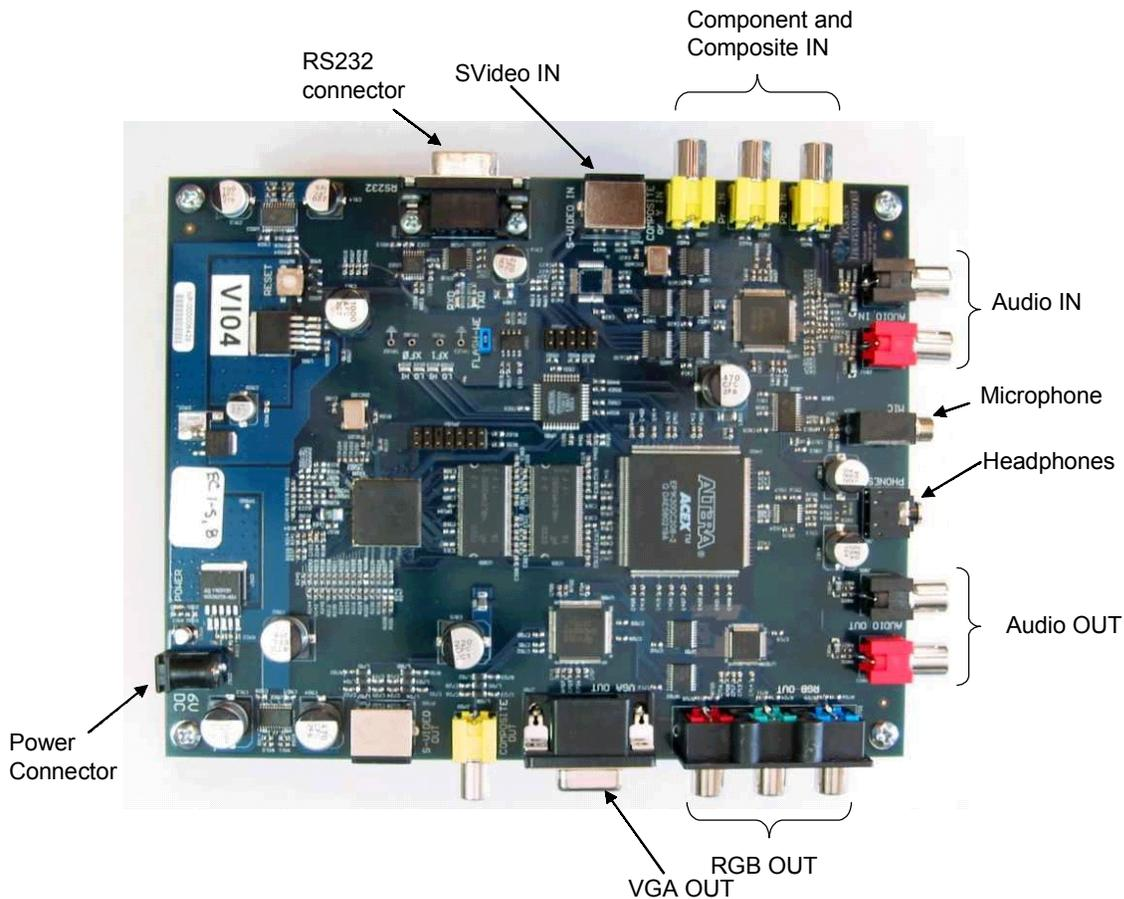
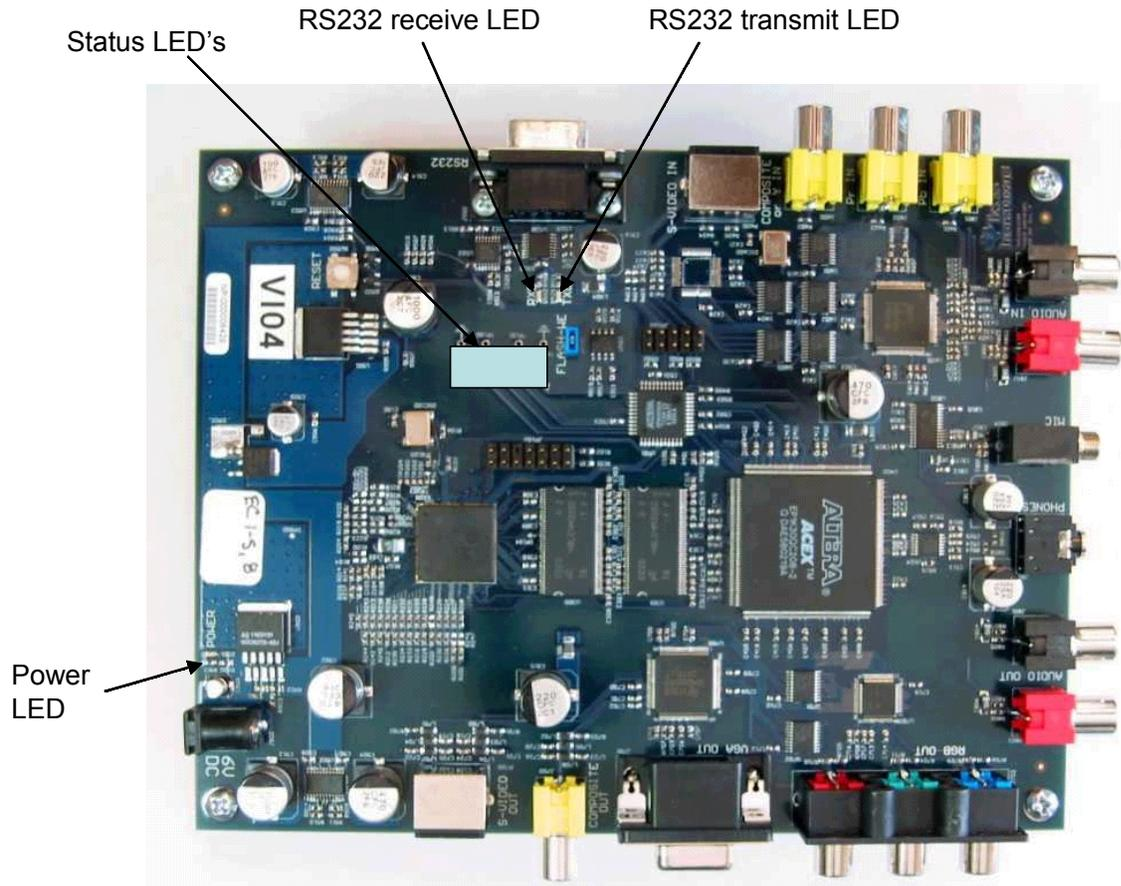

Figure 2. Location of RS232, power, audio, and video connectors.
Figure 8. Status LED's.
The demonstration platform is connected to the PC using the serial cable provided. The serial cable is gray and has a 9-pin D-shell connector (one end male, the other female) on either end. Attach the male end of the cable to the D-shell connector on the platform board. The other female end is connected to the male connector on the PC. Note that you may have to remove the nuts on the end of the cable connected to the PC. Figure 2 shows the location of the RS-232, power, audio, and video connectors on the platform board.
- S-Video input. Attach the S-Video cable to the video source and to P600, the S-Video input shown in Figure 2.
- Composite input. Attach the RCA cable to the video source and to J600, the Composite/Yin input shown in Figure 2. J600 is the left-most of the three yellow RCA connectors in Figure 2.
- Analog component input. Attach the three RCA cables to the video source and to the three RCA inputs labeled “Component and Composite IN” shown in Figure 2: Yin to the Composite/Yin input (J600); Pr to the Pr-In input (J602); Pb to the Pb-In input (J601). J600 is the left-most connector in the picture, J602 is in the center, and J601 is to the right.
Finally, connect the 6V power supply to the board and plug the power supply into a wall outlet. The location of the power supply jack is shown in Figure 2. If the power has been connected properly, then the power LED (D901) will light up. See Figure 8 for the location of the power LED.
Figure 8 shows the status LED’s of the demonstration platform.